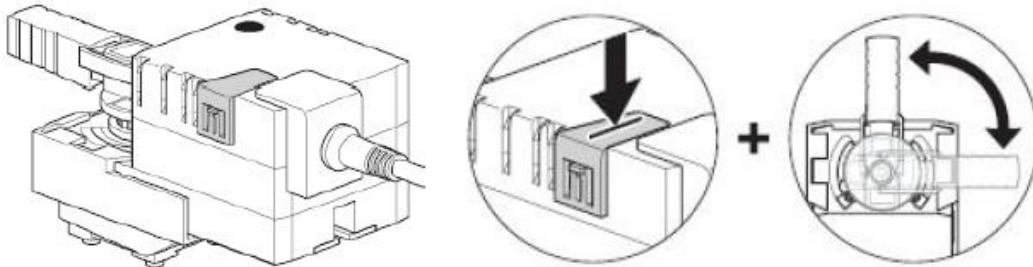

Figure 2-33 Water valve and manually opening the valve
- 3) Unplug the water valve from the unit; open the valve till the maximum as shown in Figure 2-33. Press the manual button and rotate the valve rod to the horizontal position.